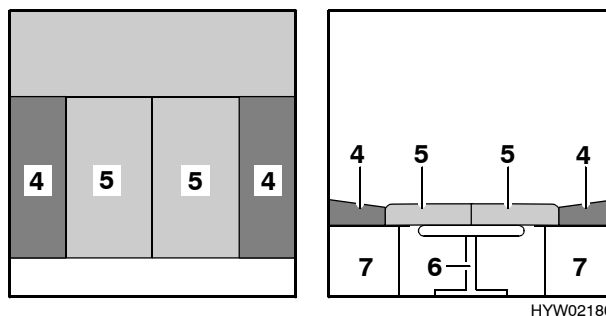

Fig. 90 After conversion
- Place the two seat cushions (Fig. 90,5) in the centre.
- Insert the back cushions (Fig. 90,4) between the seat cushions and the exterior wall.